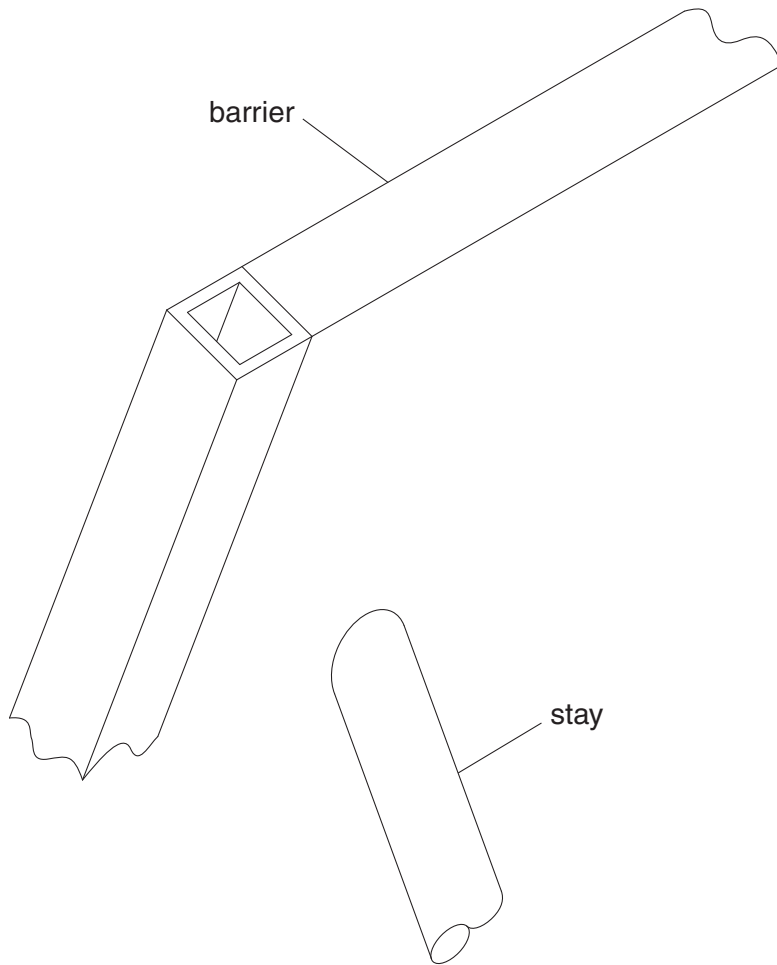

Fig. 4
- (e) Fig. 4 shows part of the barrier and stay. The adjustable stays need to be securely attached to the top of the barrier.
Design a fitting on Fig. 4 that will: